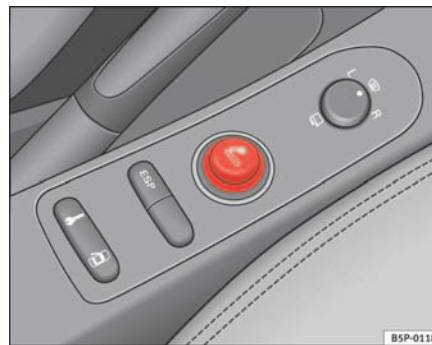

Fig. 114 The cigarette lighter is located in the electric socket on the front of the centre console
- Press on the cigarette lighter ⇒ fig. 114 to activate it ⇒ ⚠.